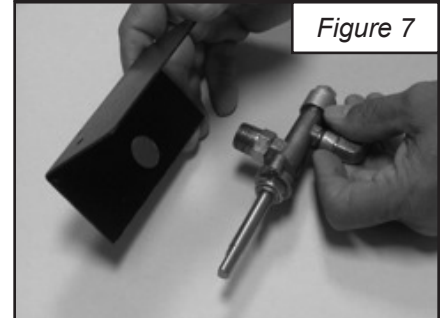

Figure 7
- G. Slide the hole in the heat shield (Part #15) over the 3/8" NPT threads on the Gas Control Valve (Part # 3). (See Figure 7)